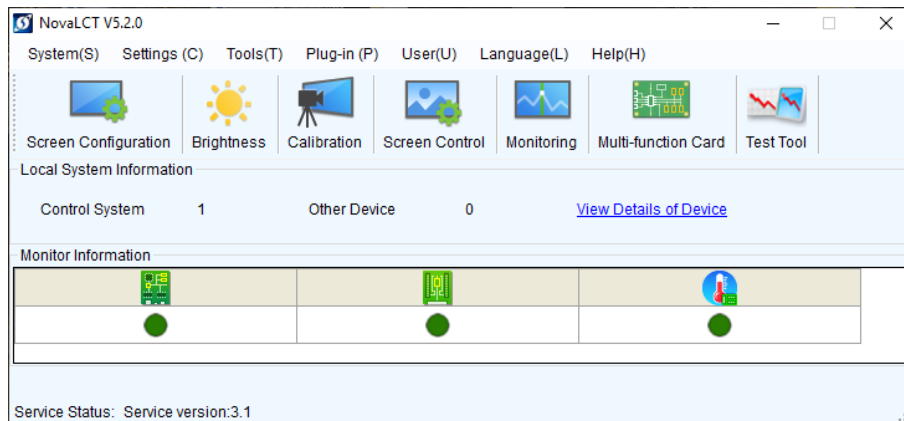
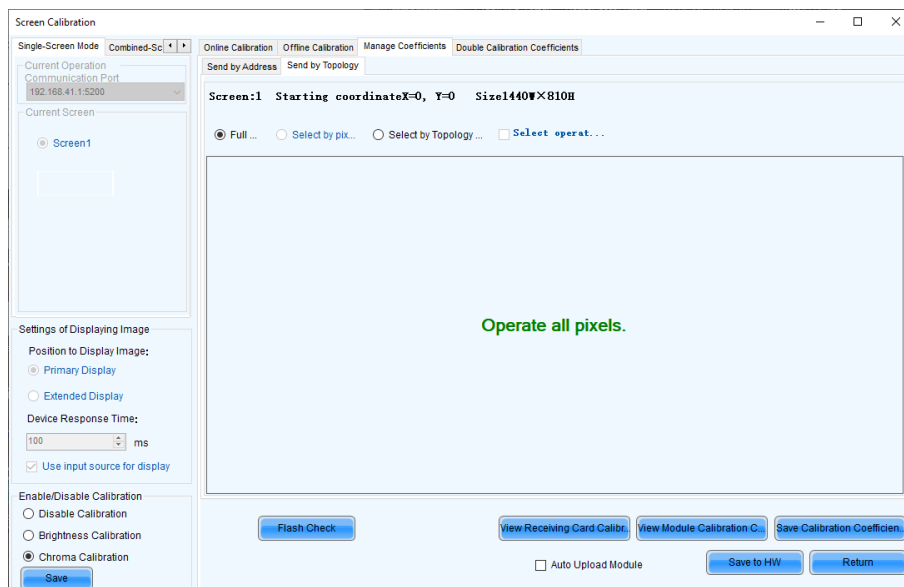

Figure 79: Start Screen – Starting Calibration
Figure 80: Start Screen for Screen Calibration
Step 2) Click the **Calibration** button. The screen refreshes automatically (see Figure 79 and Figure 80).